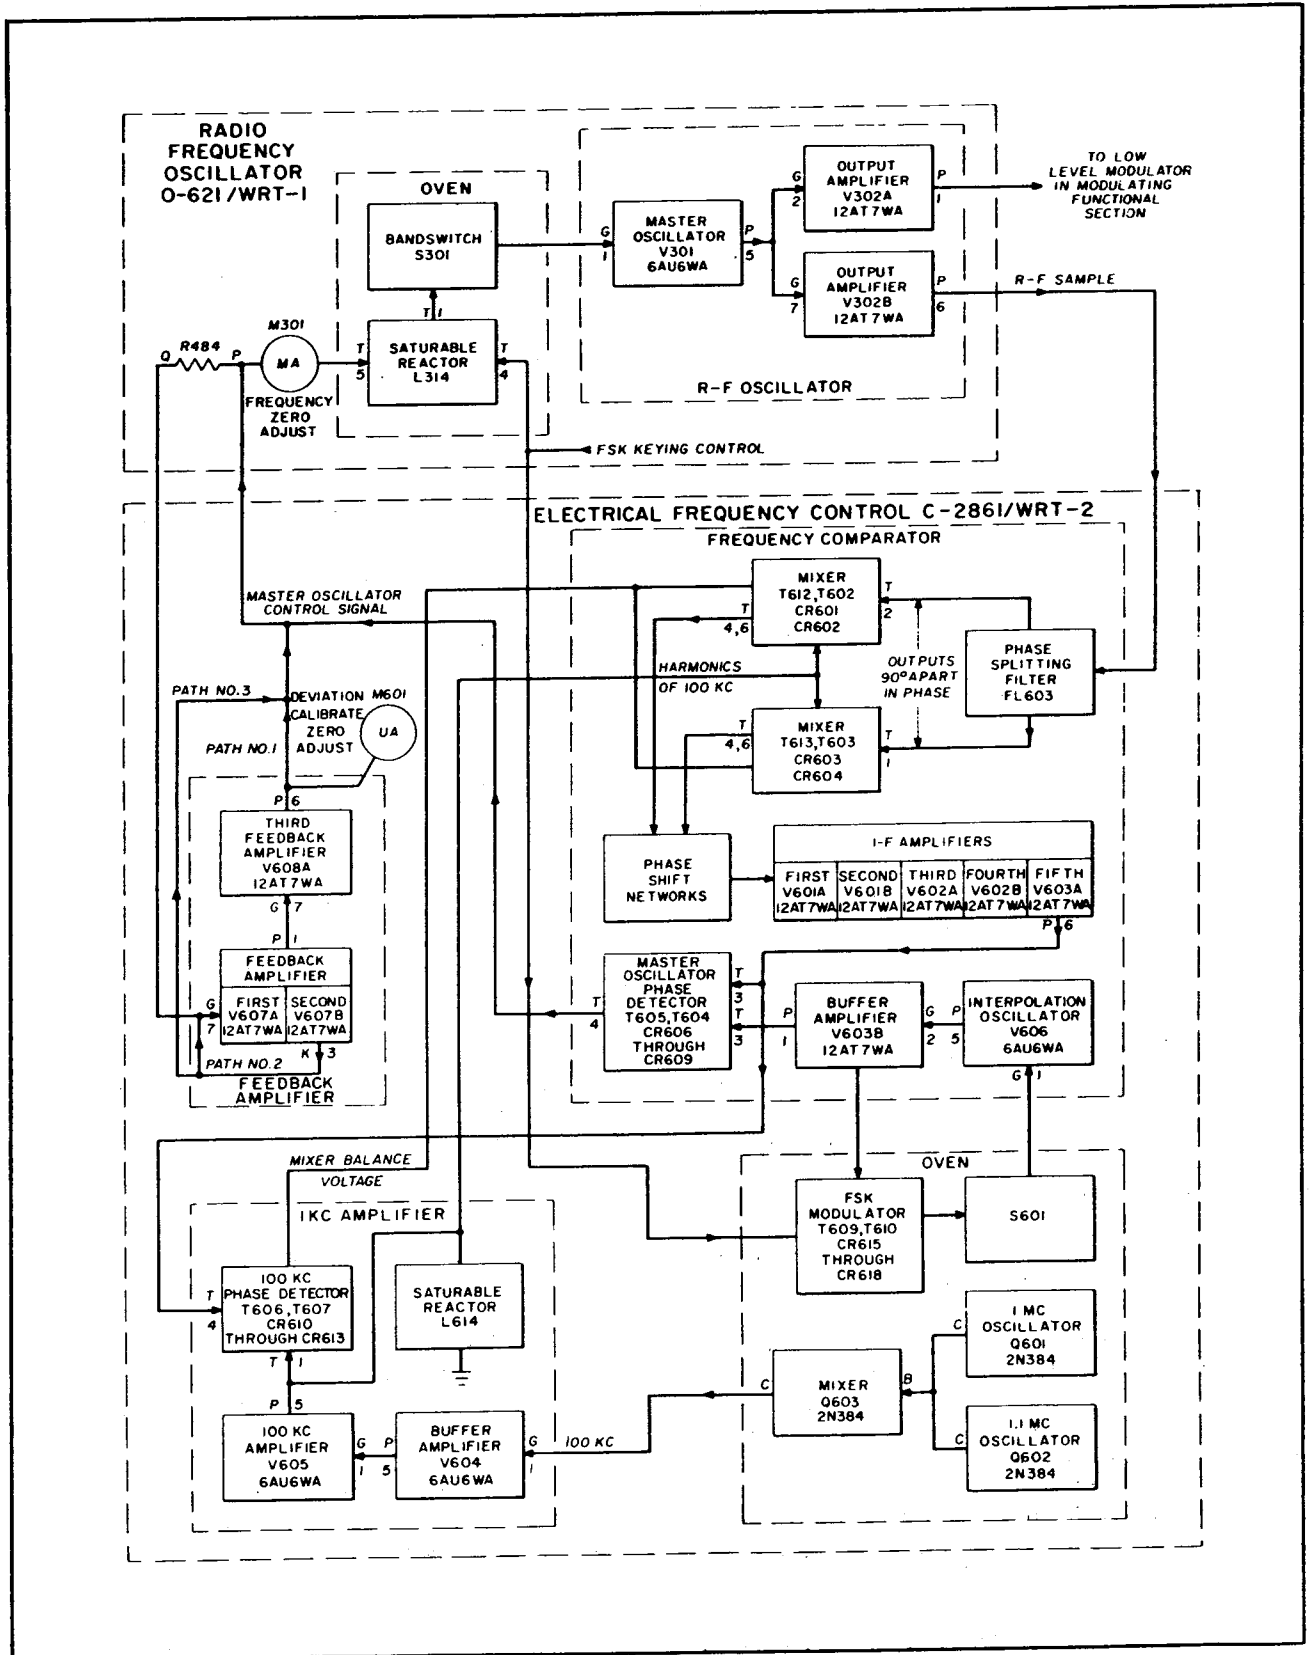

Figure 4-2. R-F Generating Section, Functional Block Diagram
(1) The r-f generating functional section performs two major functions: Creation of the low level r-f carrier and stabilization of the carrier frequency. A master oscillator with frequency variable over the range of 300 to 1500 kilocycles generates the fundamental r-f carrier signal. The frequency control circuits receive a sample of the master oscillator output and compare it with a stable interpolation oscillator output. If the master oscillator frequency starts to deviate from the assigned value, the comparison circuit generates a correction voltage. The correction signal is applied to a saturable reactor in the master oscillator grid circuit and the oscillator frequency is brought back to the proper value. Under normal operating conditions the transmitter has a stability of 30 cps \pm 1.5 cycles per megacycle. A block diagram of the r-f generating functional section is shown in figure 4-2.
(2) As shown in figure 4-2, the frequency-determining elements of master oscillator V301 are contained in a temperature-controlled oven. Band switch S301 (TUNING **C**) control, located on the front panel of Radio Frequency Oscillator O-621/WRT-1) has twelve positions; each position selects a 100-kc frequency band within the total frequency range of 300 to 1500 kc. The master oscillator frequency may be varied within each band in 100-cycle steps, by means of TUNING **D**) control. The a-c winding of saturable reactor L314 forms a part of the grid circuit of the master oscillator. Two d-c bias windings control the inductance of the a-c winding of L314 and thus control the carrier frequency. As shown in figure 4-2, one winding of L314 receives bias from the FSK keying circuits; the other winding receives a bias from the frequency stabilization circuits. The output of master oscillator V301 is coupled to two output amplifiers, V302A and V302B. The output of V302A is applied to the low level modulator, V801, in the modulating functional section; the output of V302B is applied to phase-splitting filter FL603.
(3) The output of FL603 consists of two sine waves 90 degrees apart in phase. One output is applied to the i-f mixer consisting of transformers T612 and T602, and diodes CR601 and CR602. The second output is applied to the i-f mixer consisting of transformers T613 and T603 and diodes CR603 and CR604. As shown in figure 4-2, harmonics of a 100-kc crystal-stabilized signal are also applied to the two i-f mixers.
(4) In order to study the nature of the sideband signals generated by the mixers, consider the case where the master oscillator frequency is 460 kc. When the r-f sample is heterodyned with a 400-kc harmonic of the crystal oscillator, a sideband of 60 kc is produced. When 460 kc is mixed with the 500-kc harmonic, a sideband of 40 kc is produced. In each mixer output there are 40-kc and 60-kc sidebands. The phase difference between the two 60-kc signals is 90 degrees; the phase difference between the two 40-kc signals is also 90 degrees. If the 40 and 60-kc outputs of one mixer are considered as a reference, the 40-kc signal from the second mixer lags by 90 degrees and the 60-kc signal leads by 90 degrees. Note that the 60-kc signal resulted when the crystal harmonic frequency was lower than the r-f sample frequency, and the 40-kc signal resulted when the crystal harmonic frequency was higher than the r-f sample frequency. The frequency relationships account for the reversal of phase relationships. The 40-kc and 60-kc signal outputs of the mixers are applied to two r-c phase shift networks. After being shifted in phase in the two networks, the signals are applied to the grid of the first i-f amplifier V601A. The phase shift is such that the total phase shift of the two 40-kc signals is 180 degrees and they cancel at the grid of V601A. On the other hand, the phase shift of the two 60-kc signals is zero degrees and the amplitudes add at the grid of V601A.
(5) As a second example of the operation of the mixers and phase shift network, consider the case where the master oscillator frequency is 440 kc. The two sidebands of interest are again 40-kc and 60-kc. Note that in this case the 60-kc signal is the result of a crystal harmonic frequency higher than the r-f sample frequency. The phase relationships of the two mixer outputs are now reversed and, since the r-c phase shift network is unchanged, the 40-kc sidebands are shifted in phase to add and the 60-kc sidebands are shifted in phase to cancel. For comparison with the interpolation oscillator output, however, the sideband frequencies must be limited to the range of 50 to 100 kc. Therefore, when the last 10-kc digits of the master oscillator frequency are in the range of 0 to 50-kc, the output of i-f mixer transformer T602 is reversed by mechanical means and the sideband phase relationships are maintained the same as in the first example. A relay, which is energized by the interpolation oscillator bandswitch (TUNING **A**) control, located on the front panel of Electrical Frequency Control C-2861/WRT-1) when the last 10-kc digits of the master oscillator frequency are less than 50-kc, controls the output switching.
(6) As shown in figure 4-2, the acceptable sideband signal is passed through five cascaded amplifiers: V601A, V601B, V602A, V602B, and V603A. Bandpass filters between the first and second i-f amplifiers and
(7) Since the i-f passband will accept the 100-kc fundamental, it is necessary that the i-f mixers be extremely well balanced. Aging of circuit components and ambient temperature variations, however, inevitably introduce some imbalance; therefore an automatic balancing circuit is provided to null the unwanted 100-kc signal. The 100-kc signal output of one mixer is 90 degrees out of phase with the output of the other mixer. A sample of the i-f frequency is taken from the cathode of V603A and applied to two phase detectors consisting of transformers T606 and T607, and diodes CR610 through CR613. As shown in figure 4-2, a 100-kc reference signal is also applied to the phase detectors. The phase of the reference signal to one detector is shifted 90 degrees. A d-c correction bias is developed by the phase detectors whenever the i-f output contains the unwanted 100-kc signal. The phase of the i-f output indicates which mixer is unbalanced and the corrective bias is applied to that mixer.
(8) As shown in figure 4-2, the 100-kc reference signal is obtained by mixing the outputs of 1-Mc oscillator Q601 and 1.1-Mc oscillator Q602. A tuned filter in the output of mixer Q603 selects the difference of the oscillator frequencies (100 kc) for application to buffer amplifier V604 and 100-kc amplifier V605. The output of V605 is applied to the 100-kc phase detectors and to saturable reactor L614. When the core of L614 saturates, a narrow voltage pulse is developed. The voltage pulses, which are rich in harmonics, are applied through an r-c differentiating network to the i-f mixers.
(9) As shown in figure 4-2, the bias output of the master oscillator phase detector is used to control the frequency of the master oscillator. The inputs to the phase detector are the i-f signal from V603A and the signal from interpolation oscillator V606 and buffer amplifier V603B. When the two signals are exactly 90 degrees out of phase, no correction voltage is applied to the bias winding of saturable reactor L314. When a phase difference occurs due to a drift in the master oscillator frequency, a correction signal of proper polarity is applied to L314 to return the master oscillator to the assigned frequency. FREQUENCY ZERO ADJUST meter M301 (located on the front panel of Radio Frequency Oscillator O-621/WRT-1) indicates the relative magnitude and polarity of the correction signal. The interpolation oscillator, V606, covers the frequency range of 50 to 100-kc in five bands. The bands are selected by TUNING (A) control (located on the front panel of Electrical Frequency Control C-1261/WRT-1) and tuning within each band is ac-
(10) As shown in figure 4-2, an output from buffer amplifier V603B is applied to the FSK modulator consisting of transformers T609 and T610, and diodes CR615 through CR610. During FSK operation, d-c bias signals from the keyer in Radio Frequency Oscillator O-621/WRT-1 unbalance the modulator and its output is applied in the grid circuit of the interpolation oscillator. The modulator output has the effect of inserting or removing reactance so that the frequency of the interpolation oscillator is shifted in synchronism with the frequency shift of the i-f comparison sideband. During all other types of emission, there is no output from the FSK modulator.
(11) The d-c control voltage from the master oscillator phase detector has i-f and harmonic ripple content which is removed by a 10-kc low-pass filter. The filter is inserted between the phase detector and saturable reactor L314. However spurious signals as low as 30 cycles may still be present. One of the functions of feedback amplifiers V607A, V607B, and V608A is to remove such signals. A spurious signal appearing at the output of the low-pass filter is applied through resistor R484 (see figure 4-2) to grid 7 of V607A. The signal is amplified by V607B and V608A and the output of V608A is returned through feedback path number one to oppose the original signal (negative feedback). Thus, the net spurious signal voltage appearing across R484 is reduced to a negligible value. The d-c control voltage is not affected by the feedback path because the amplifiers do not pass d-c. If the master oscillator should suddenly change frequency (due to shock, for example) the transient voltage is coupled through the feedback amplifiers. When the change in
voltage exceeds the normal spurious signal level, V608A saturates, and feedback path number one becomes ineffective until the master oscillator frequency is stabilized. DEVIATION CALIBRATE ZERO ADJUST meter M601 measures the spurious signal level in feedback path number one. Feedback path number two (refer to figure 4-2) is a secondary degenerative feedback path within the major loop and its function is to maintain the overall a-c loop gain at a reasonably constant level.
(12) Feedback path number three provides an automatic searching function for initial lock in of the master oscillator. The feedback is positive (regenerative) and is effective only at extremely low frequencies. When the master oscillator is locked in, point P (refer to figure 4-2) is essentially at ground potential for feedback path number three and thus it has no effect on the a-c control loop. However, with the master oscillator unlocked, the impedance at point P for feedback path number three rises to a level sufficiently high that a positive feedback voltage is developed and stages V607A and V607B oscillate at approximately 2 cycles, thereby sweeping the frequency of the master oscillator until it generates the proper frequency and locks in.